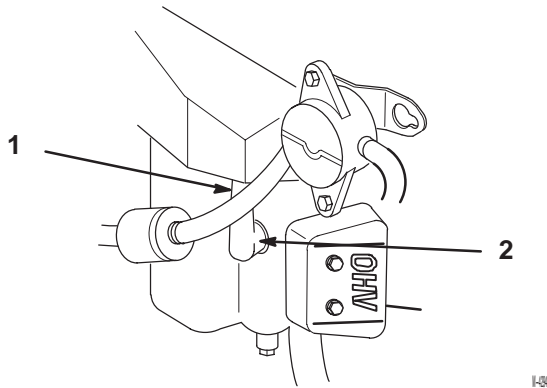

Figure 31
3. Pull the wire(s) off the spark plug(s) (Fig. 31). Now clean around the spark plug(s) to prevent dirt from falling into the engine and potentially causing damage.
- Push the wire(s) onto the spark plug(s) (Fig. 31).